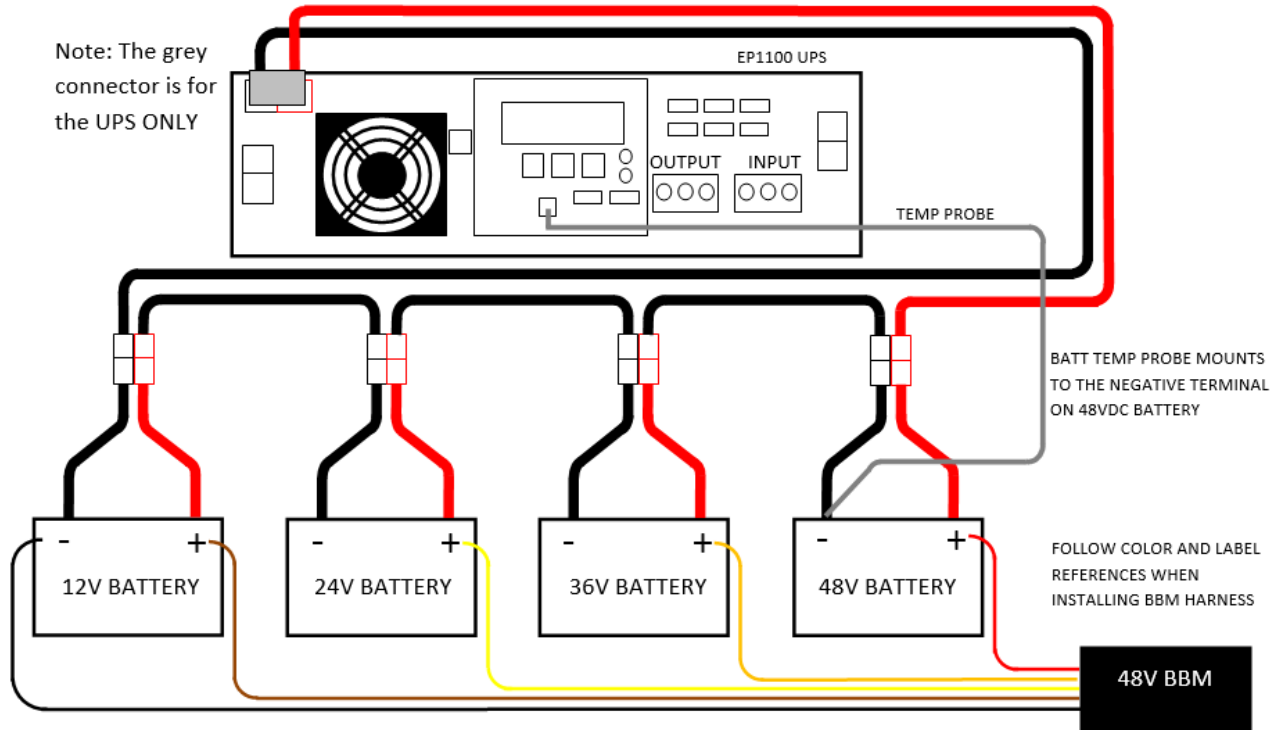

Fig. 4-3: EP1100 with 48VDC Battery Harness Kit
1. The UPS system uses a 48VDC battery system. Refer to figure 4-3 and 4-4 when installing the battery harness for the system. **NOTE:** Follow diagram as pictured or system damage may occur.